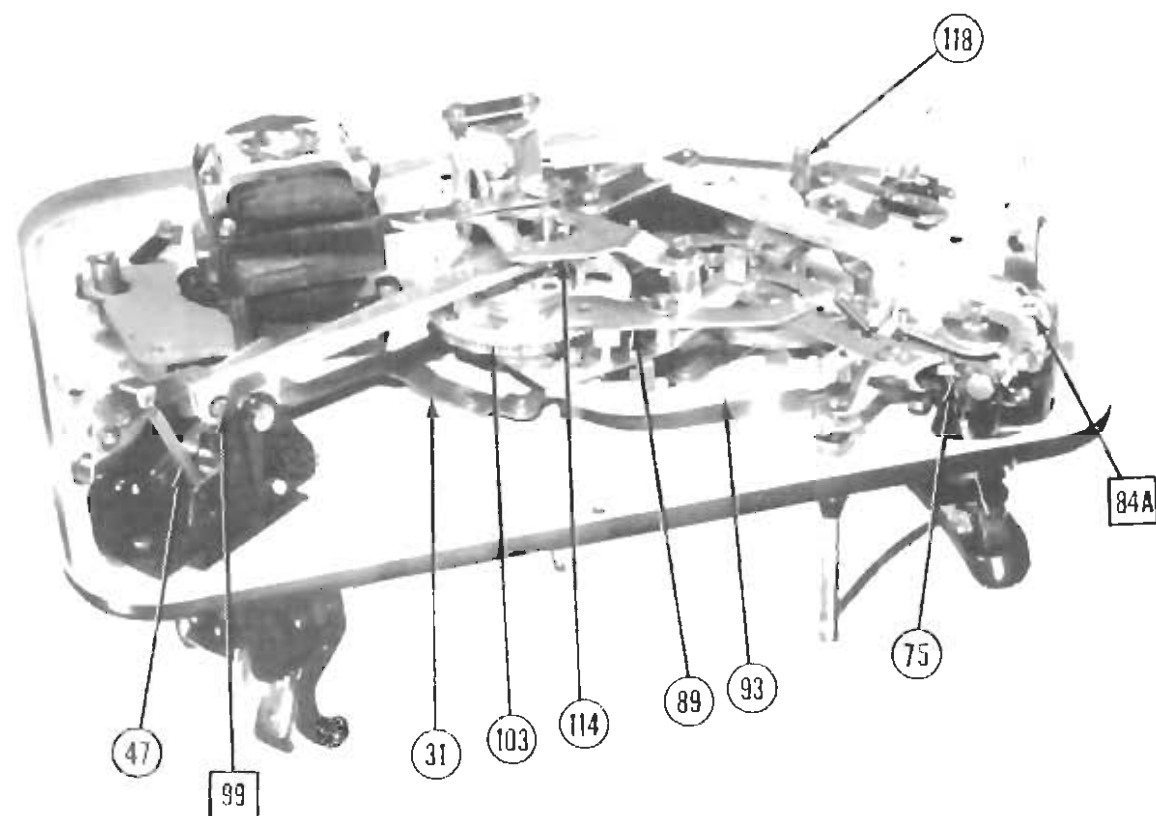

Figure 8
Tone Arm Height - (See Figure 8) -
2. Move the platform lever (57) to the 10" pos.
3. Loosen the tone arm lever (76) clamp screw. Figure 8.
4. Push up on the lever assembly (76) so that it does not bind on any parts; then move it counterclockwise so that the index lever will just touch the pin on the end of the positioning lever (31).
5. While holding the lever assembly (76) in this position, move the tone arm in so that the needle will rest in the starting groove of the record; then tighten the clamp screw and check the adjustment.